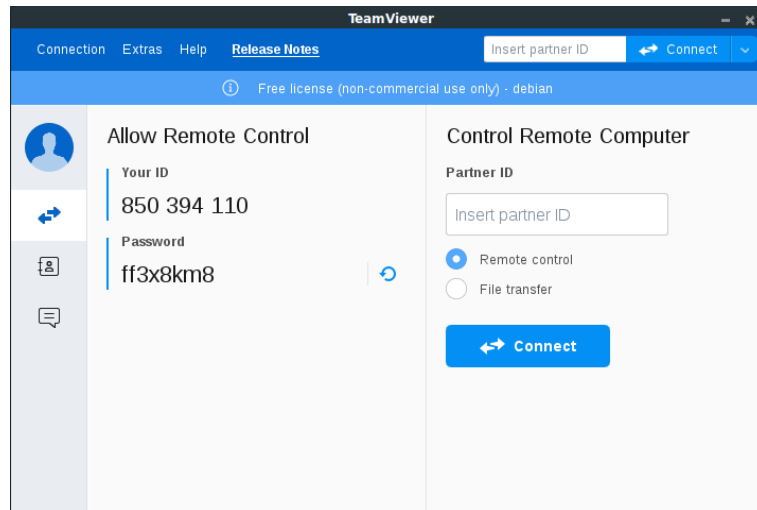

Figure 24: TeamViewer
- If the device has an internet connection and the firewall of the customer site does not block the TeamViewer, then the TeamViewer will be opened with an ID and a password as shown in Figure 24: TeamViewer.